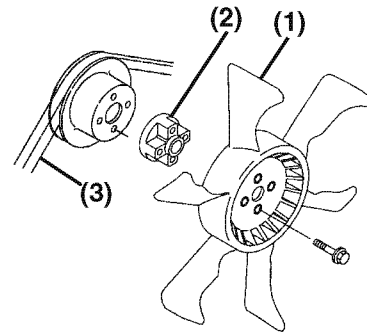

Figure 7-44
9. Remove the cooling fan (**Figure 7-44, ((1))**), spacer (if equipped) (**Figure 7-44, (2)**) and V-belt (**Figure 7-44, (3)**).